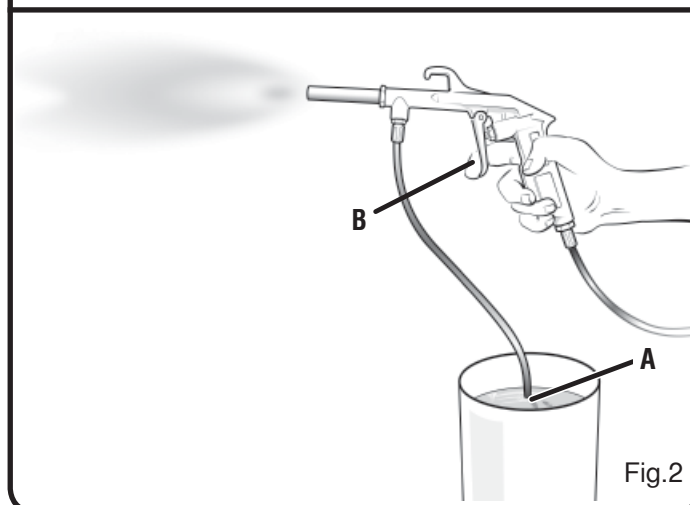

Fig.2
- 2) Insert the transparent tube (A) into the bucket, containing the liquid you want to suck up (Fig. 2).
- 3) Press the siphon gun lever (B) and start to use it (Fig. 2).